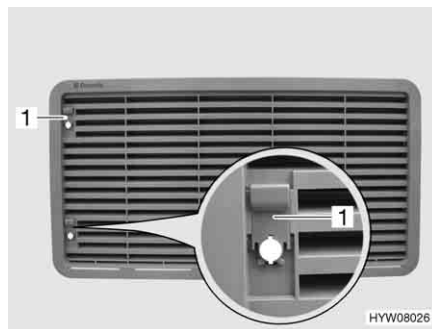

Fig. 215 Refrigerator ventilation grill (with sliding trap)
- Push sliding trap (Fig. 215,1) upward.